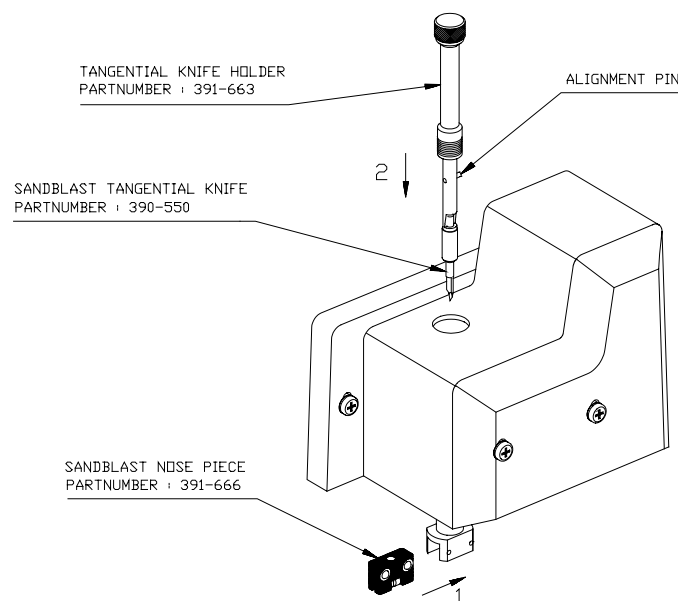

FIGURE 1-10:
2. Insert the **black** nose piece as shown in Figure 1-10 until it clicks into place inside the nose piece holder. Before cutting masking stencil, always replace the standard nose piece (grey in colour) with the masking stencil nose piece (black in colour).
3. Gently insert the knife into the tool shaft as shown in Figure 1-10. Hold the nose piece in place with one hand and, with the other hand, turn the knife holder counterclockwise until the alignment pin fits into the small notch of the tool shaft. Now turn the knife holder clockwise until its threads take hold inside the tool shaft.